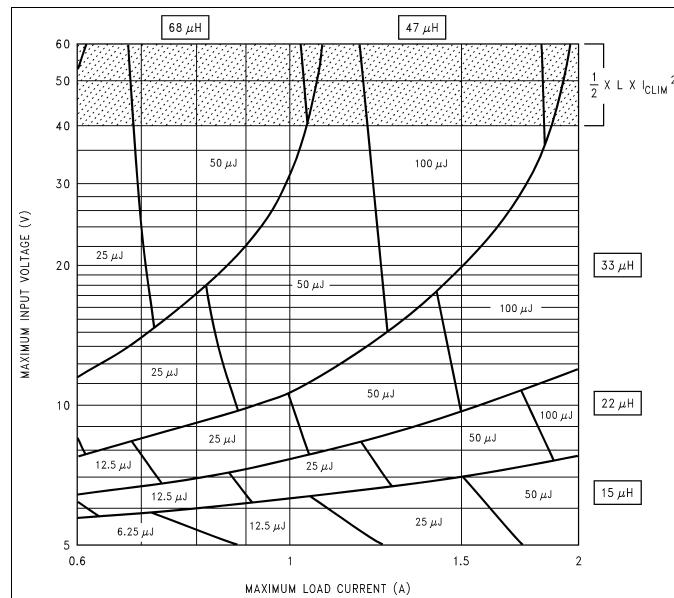
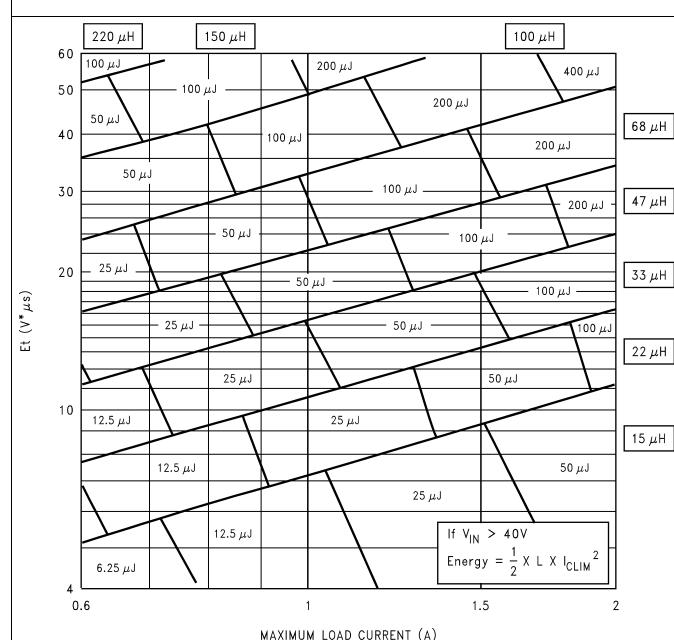

Figure 33. LM2593HV 3.3-V
Figure 35. LM2593HV Adjustable Voltage
See application note *AN-1197 Selecting Inductors for Buck Converters* (SNVA038) for detailed information on inductor selection. For a quick-start, see the nomographs provided in Figure 33 to Figure 35. To widen the choices to a more general selection of available inductors, the nomographs provide the required inductance and also the energy in the core expressed in microjoules (μJ), as an alternative to just prescribing custom parts. The following points must be highlighted:
5. Figure 35 shows the inductor selection curves for the adjustable version. The y-axis is Et , in $\text{V}\mu\text{s}$. It is the applied volts across the inductor during the ON time of the switch ($V_{IN}-V_{SAT}-V_{OUT}$) multiplied by the time for which the switch is on in μs . See Example 3.
1. Because input voltage is less than 40 V, a first pass inductor selection is based upon inductance and rated maximum load current. Choose an inductor with the inductance value indicated by the nomograph Figure 35 and a current rating equal to the maximum load. But first calculate E_t for the given application. The duty cycle is Equation 5.
3. Therefore, looking at Figure 33, quick-select a 47- μ H, 2-A inductor (designed for 150-kHz operation) for this application.
4. Confirm that it is rated to handle 200 μ J (see Figure 35) by the procedure shown in AN-1197 Selecting Inductors for Buck Converters \(SNVA038\) and that the losses are acceptable. (If the DC input voltage had been greater than 40 V, consider e_{CLIM} as in Example 2).